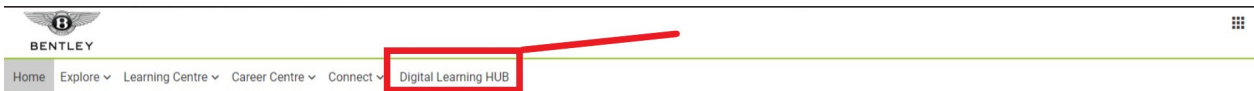

Figure 2
- From the eAcademy homepage Select - Digital Learning Hub (Figure 2)